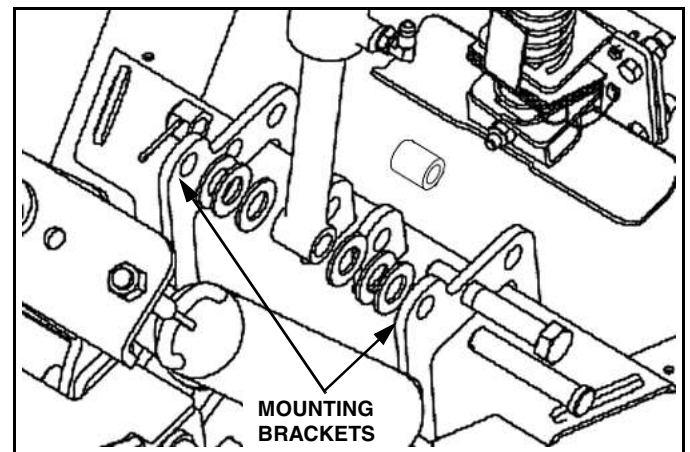

Figure 1-19
- a. Position the mounting brackets on the A-frame crossmember with the raised tabs positioned toward the front of the A-frame. (See Figure 1-19).